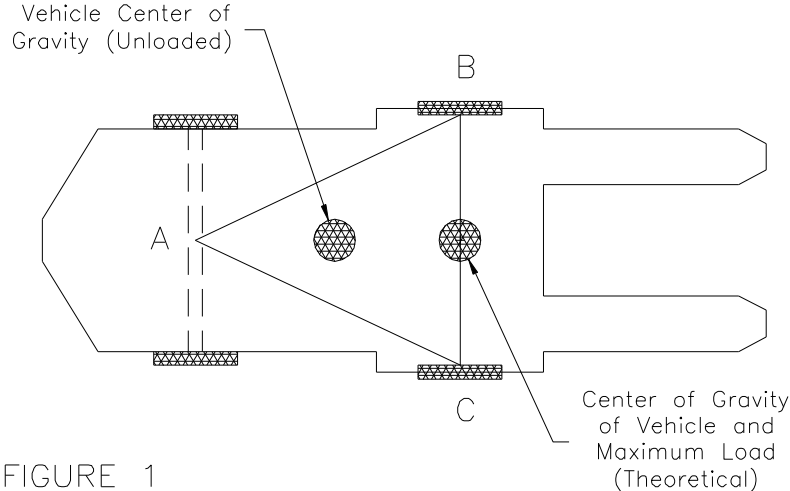

FIGURE 1
Almost all counterbalanced powered industrial trucks have a three-point suspension system, that is, the vehicle is supported at three points. This is true even if the vehicle has four wheels. The truck's steer axle is attached to the truck by a pivot pin in the axle's center. When the points are connected with imaginary lines, this three-point support forms a triangle called the stability triangle. Figure 1, below, depicts the stability triangle.
- Figure 1 Notes:
- When the vehicle is loaded, the combined center of gravity (CG) shifts toward line B-C. Theoretically, the maximum load will result in the CG at the line B-C. In actual practice, the combined CG should never be at line B-C.